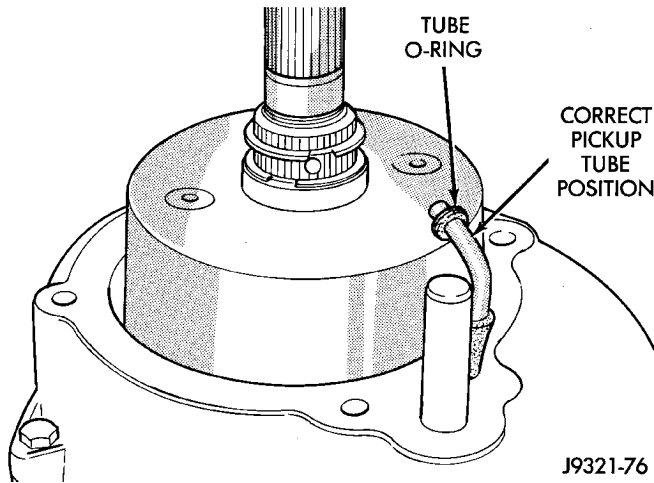

Fig. 70 Checking Position Of Oil Pickup Tube
(11) Verify that oil pickup tube is still seated in case notch and tube end is pointed toward mainshaft (Fig. 70).